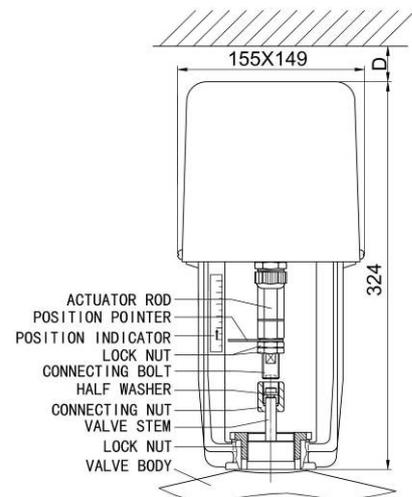

Fig.2
\*Note: "D" in Fig. 2 should be more than 160mm for installation and maintenance.
1. Install the actuator bracket on the valve body. Mount the connecting nut on the valve stem. Put the two half washer into the groove of the top of valve stem, then screw the connecting bolt into the connecting nut. The degree of tightness depends on whether the valve stem and other parts can rotate correspondingly and without axis clearance. And then lock the nut tightly. Finally use lock nut to tighten the actuator. (See Fig. 2)
2. Give priority to vertically installation, and the lean should not more than 30°, remain enough space for maintenance use. (See Fig. 2)